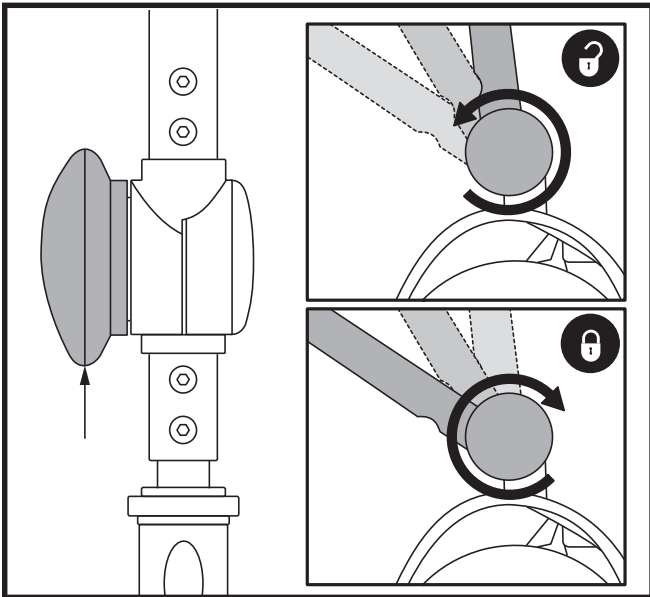

Figure 24. Tiller Adjustment Knob
## TILLER ANGLE ADJUSTMENT (See figure 24)
1. With the seat and battery pack removed (see Disassembly Procedures on previous page), lower the tiller and tighten the tiller adjustment knob. **See figure 24.**